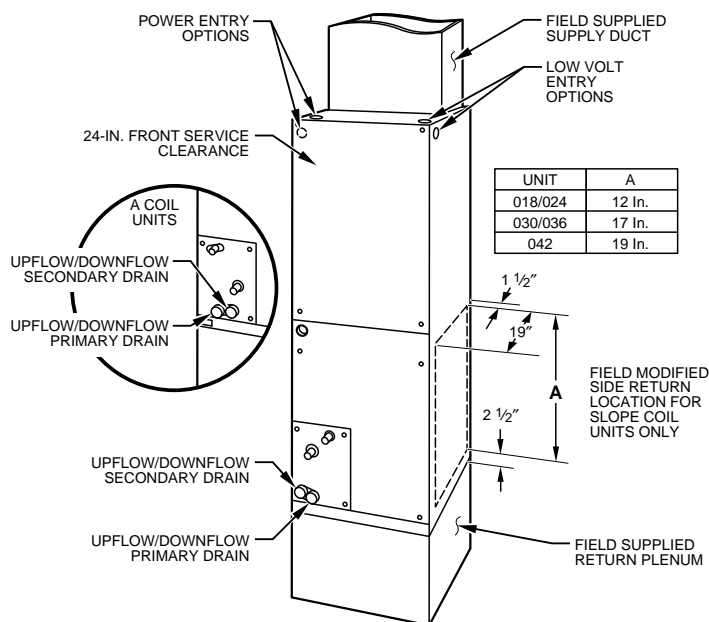

Fig. 1—FA1A Fan-Coil Unit
1. Upflow —If return air is to be ducted, install duct flush with floor. Set unit on floor over opening. Use fireproof resilient gasket, 1/8- to 1/4-in. thick, between duct, unit, and floor. Side return is a field option on FA1A018, 024, and 036 and FA1B030 models. Cut opening per dimensions in Fig. 1. A field supplied metal bottom closure is required.